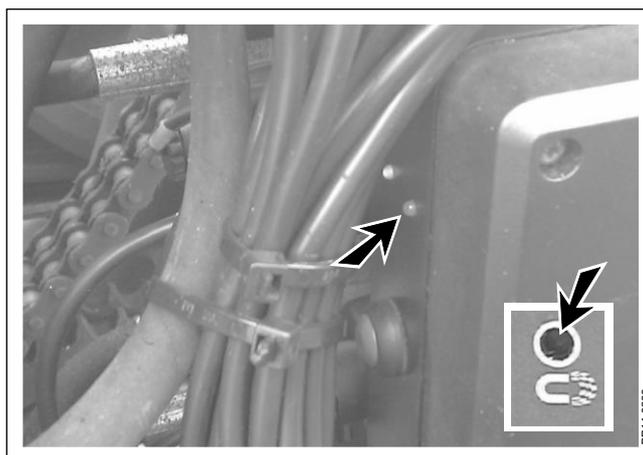

Fig. 5-7
**Fig. 5-7** The metal detector is turned on and off by pushing the button on the MD control unit. It is turned **off** by holding the button for about 5 seconds. Thereby the yellow control light on the MD control unit and the light on the control box are turned off. One single push on the button turns on the metal detector again. Although the metal detector has been turned off, it is always turned on when the machine starts, when the control unit has been turned off on the control box or when the power supply has been interrupted. This ensures that you don't work without metal detector unless you intend to. If you work without metal detector you risk that metal enters the machine, causing damage and contamination of the crop.